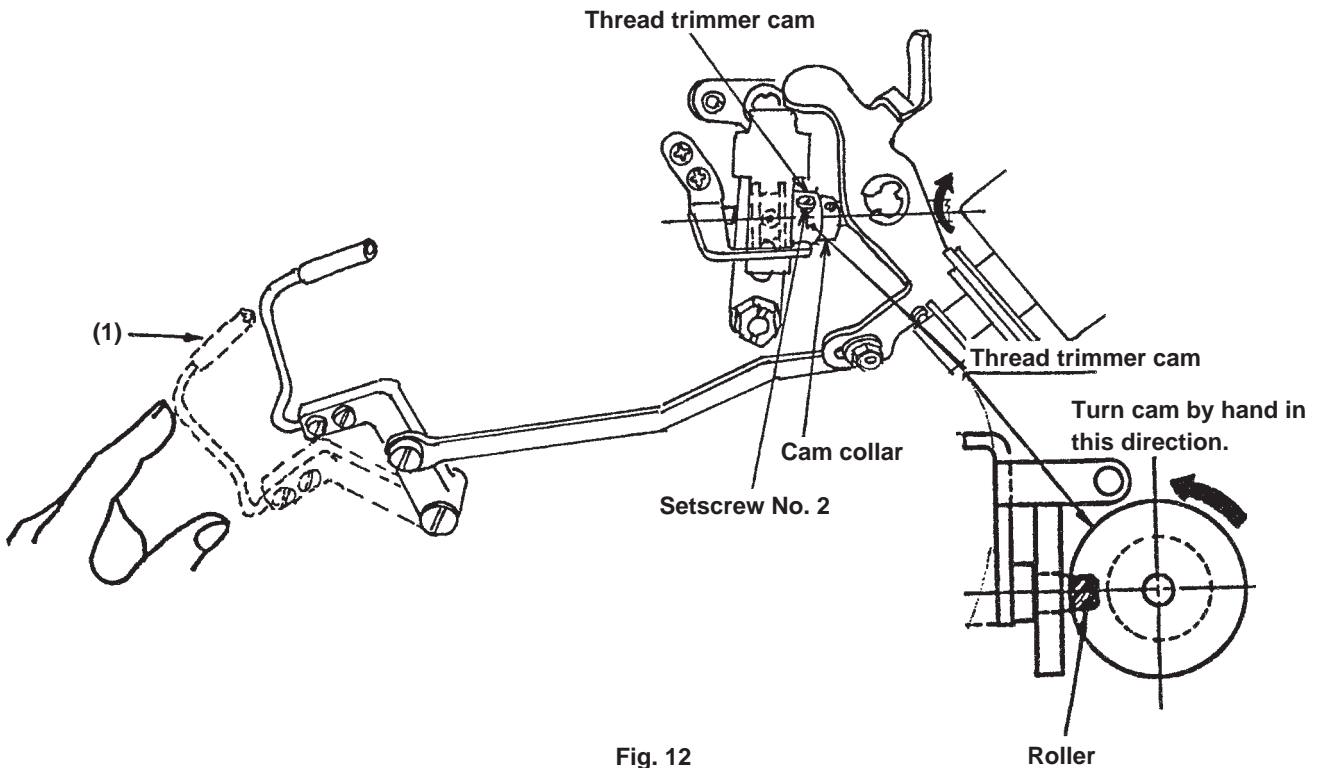
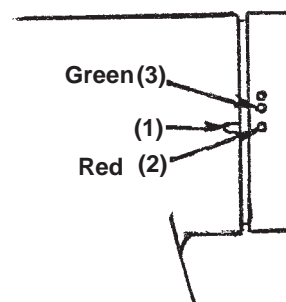
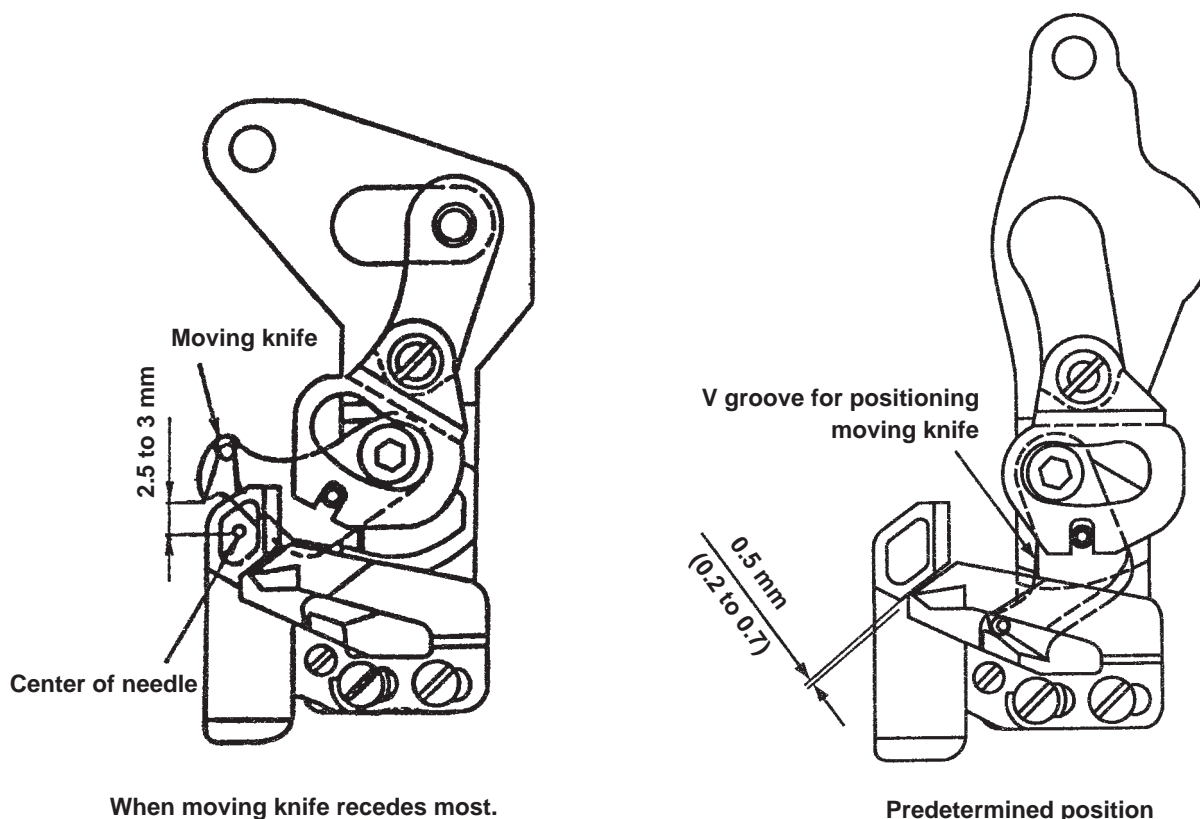
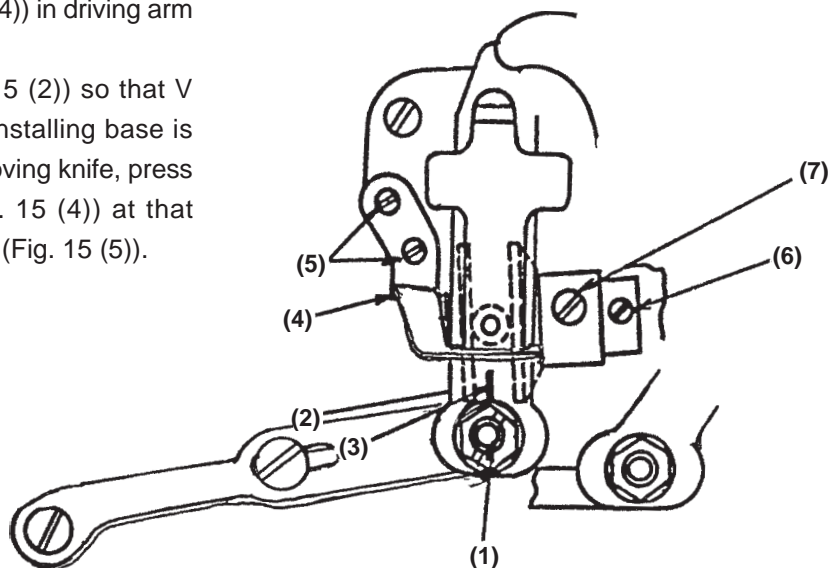

Fig. 12
Fig. 13
Fig. 14
Fig. 15
Align marker dot on the machine arm (Fig 13 (3)) with green marker dot on the handwheel (Fig. 13 (1)) and adjust thread tension No. 1 to lengthen the thread remaining on the needle after thread trimming within the range that nothing interferes with the finish of sewing.
Tilt the machine head, turn the handwheel by hand until the thread take-up lever goes up slightly near the upper dead point, press thread take-up picker (Fig. 12 (1)) to the right with fingers, and roller enters the cam groove of thread trimmer cam to engage with each other. At the same state, turn the handwheel in the reverse direction as against the normal operation of the sewing machine, and there is a position where the sewing machine does not rotate. At this time, adjust the cam timing so that marker dot (Fig. 13 (1)) of the machine arm shown in Fig. 13 is aligned with marker dot (Fig. 13 (1)) on the handwheel. This is the cam timing for cotton thread and synthetic thread.
First, loosen two setscrews (Fig. 12) in the thread trimmer cam in the order of No. 1 and No. 2, and align marker dot on the hand wheel with marker dot on the machine arm. (Fig. 13 (1) and red (2) or green (3) )
Next, pressing thread take-up picker (Fig. 12 (1) ) to the right, engage cam and roller, turn cam only with finger top in the reverse direction as against the rotating direction of hook driving shaft without turning the hook driving shaft (arrow mark in Fig. 12). Press the cam to roller (Fig. 12) at the position where the cam does not rotate, and tighten setscrews in the cam in the order of No. 2 and No. 1.
Adjustment is performed by changing the right and left positions of moving knife link pin (Fig. 15 (1)) when the sewing machine stops.
Loosen the lock nut of moving knife link pin (Fig. 15 (1)).
Following the predetermined position in Fig. 14, move the moving knife link pin to the left and right so that V groove (Fig. 14) for positioning moving knife on the knife installing base is aligned with the periphery of moving knife.
Adjust so that the center of moving knife link pin is aligned with V groove (Fig. 15 (2)) of the center of slot in knife driving arm (Fig. 15 (3)), and tighten the lock nut to fix the pin.
Loosen two setscrews (Fig. 15 (4)) in driving arm stopper (Fig. 15 (5)).
Move knife driving arm (Fig. 15 (2)) so that V groove (Fig. 14) on the knife installing base is aligned with the periphery of moving knife, press it to driving arm stopper (Fig. 15 (4)) at that position, and tighten setscrews (Fig. 15 (5)).
Loosen the respective two setscrews in thread trimmer cam (Fig. 15 (7)) and cam collar (Fig. 15 (6)). Align marker dot (red : Fig. 13 (2) or green (3)) on the handwheel with marker dot (Fig. 13 (1)) on the machine arm.
Turn with finger top setscrew No. 2 (Fig. 15 (7)) in the thread trimmer cam so that it comes to this side, and press the thread take-up picker to the right when the setscrew comes to this side.
Temporarily tighten setscrew No. 2 (Fig. 15 (7)) in the cam.
Lift the presser foot at the position where the thread take-up lever comes slightly to this side of its upper dead point. Then, check that the rising amount of the thread tension disk No. 2 is 0.5 to 1mm when thread take-up picker (Fig. 12 (1)) is pressed to the right.